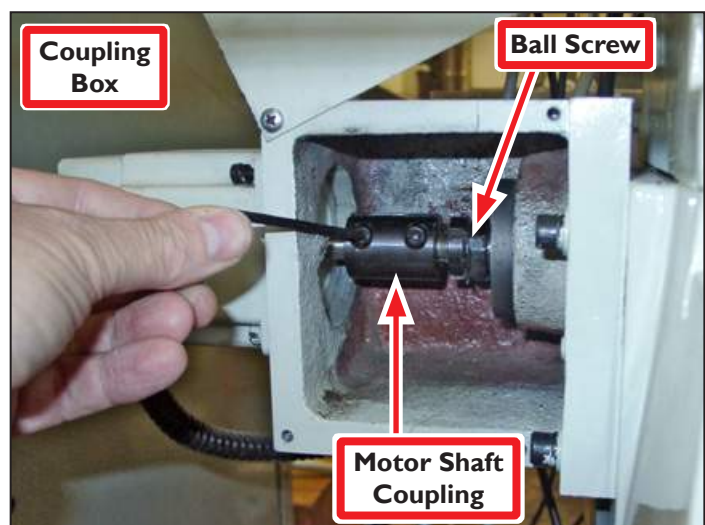

Figure 3.4
3. Using 4 mm hex wrench (included), loosen two Motor Shaft Coupling screws on end of Ball Screw (see **Figure 3.4**).